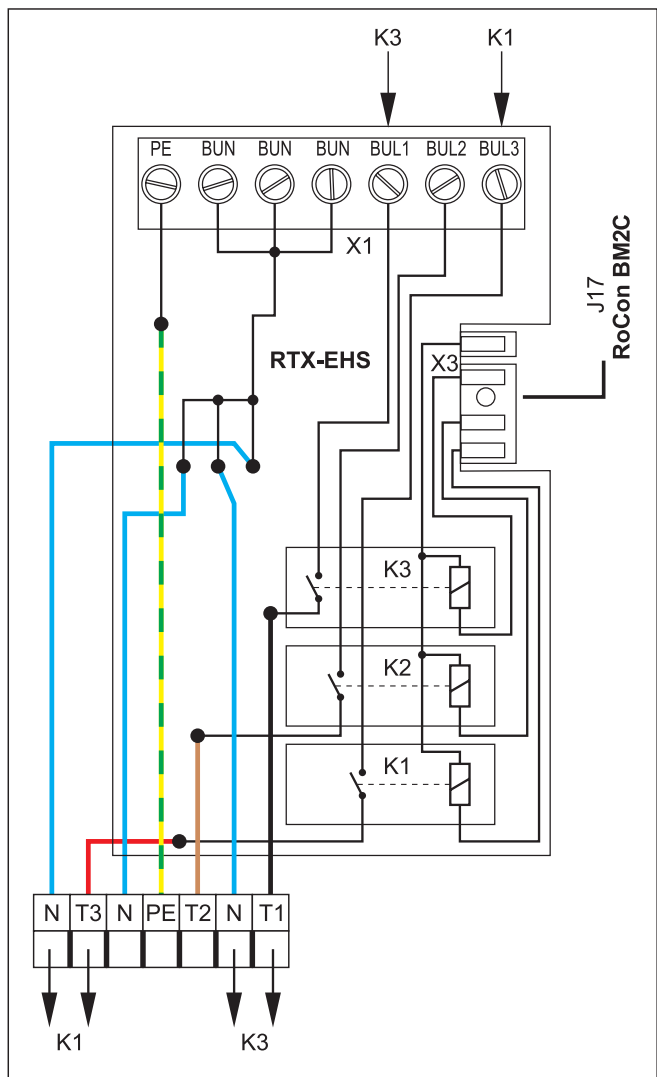

Fig. 4-38 Connection on the RTX-EHS printed circuit board
The external heat generator request is connected via a relay on printed circuit board RTX-EHS (see Fig. 4-38). Electrical connection to the Daikin Altherma EHS(X/H) is possible as follows;
- Make suitable connections on the RTX-EHS printed circuit board of the connection set (see Fig. 4-38).